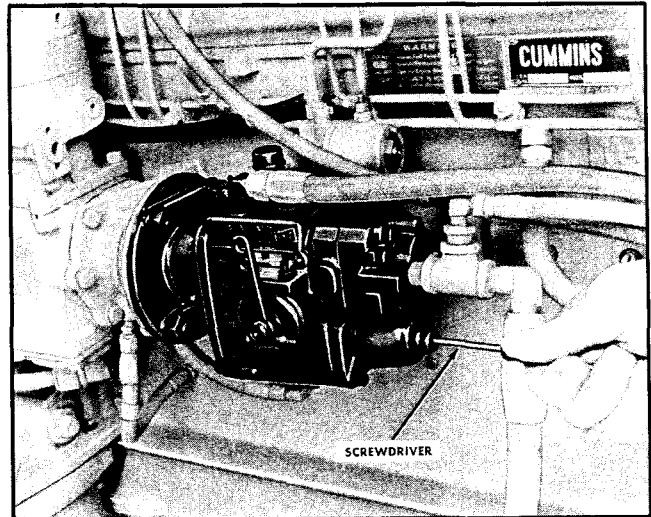

Fig. 4-30. Idle speed adjustment
2. Remove pipe plug from spring pack cover. Fig. 4-30.